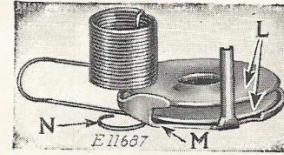

FIG. 21
Place the two tension discs (L, Fig. 21) with the flat thread-bearing sides of the discs together in position on the thread guard (M). Then pass the eyelet
(N) of the thread take-up spring under the thread guard, having the coils of the spring above the tension discs as shown in Fig. 21.